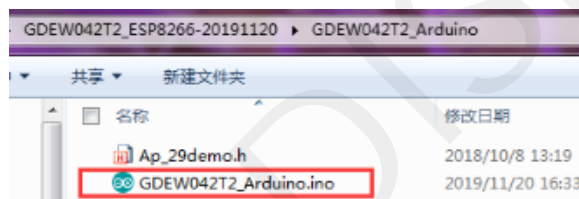

Figure 5 Open Arduino.ino
3. Open the Arduino.ino project file in the driver folder shown in Figure 5 with Arduino 1.8.6.